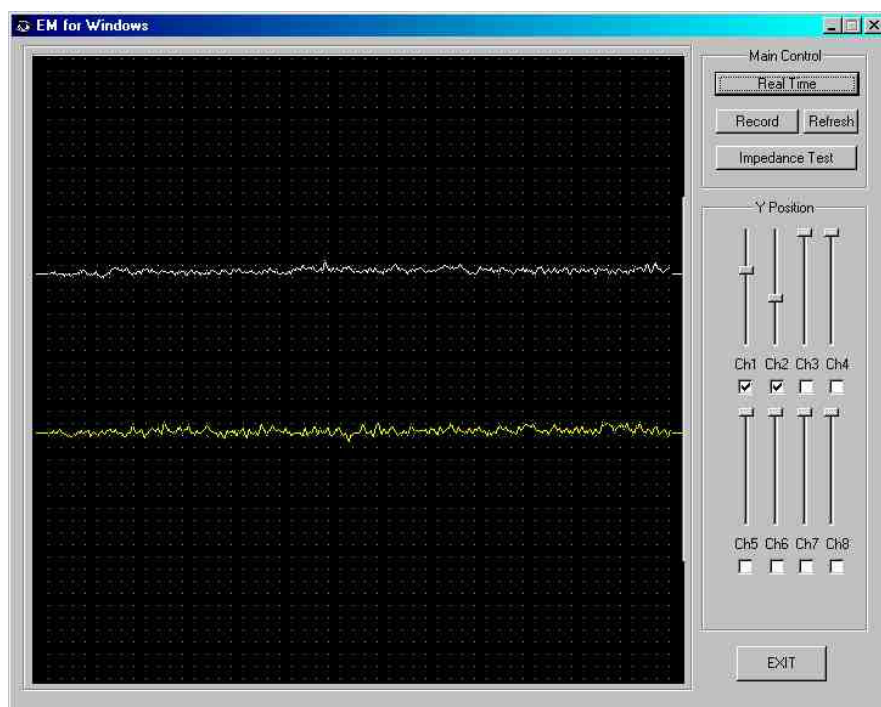

Figure 5.2.1 Adjustment of Baseline
- 5) Adjust R5 and R59 trim pots for channels 1 and 2 respectively until the positions of the waveforms are approximately those shown below in Figure 5.2.1.